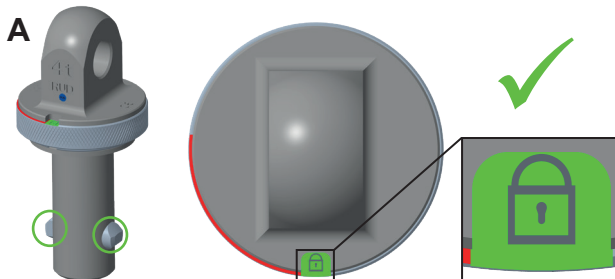

Fig. 4: Symbol **GREEN | LOCK ENGAGED** = PIP-RAPIDO is ready for lifting
- **GREEN | LOCK ENGAGED** (Fig. 4)